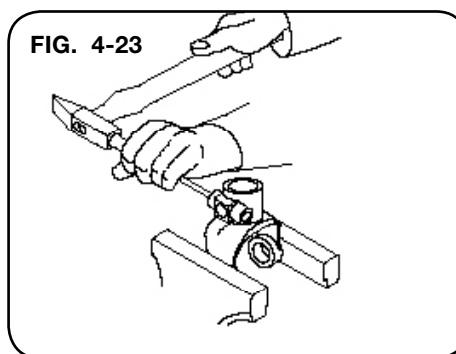

FIG. 4-23
8. Drive the pin towards the retaining washer to force the quick disconnect pin assembly out of the complete U-joint assembly. (FIG. 4-23)